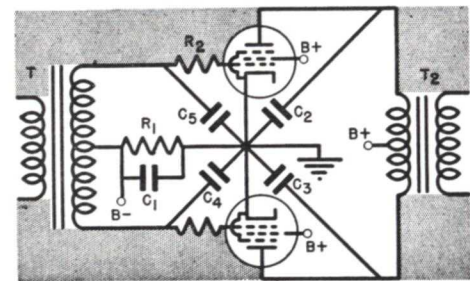

FIG. 24. Here are pictured the cures for parasitic oscillation in an output stage.
for parasitics is to insert suppressor resistors right at the grid terminals of each tube, as shown in Fig. 24. Resistors  $R_2$  and  $R_3$  should be between 100 and 1000 ohms. Use the smallest size which will eliminate oscillation.
bypass paths from the plates run through condensers  $C_2$  and  $C_3$  to  $B+$ , from  $B+$  to  $B-$  by way of the output filter condenser, and then to the cathode through condenser  $C_1$ . Bringing  $C_2$  and  $C_3$  directly to the cathode, as shown in Fig. 24, eliminates a great deal of this path, and so makes parasitic oscillations less likely. If  $C_2$  and  $C_3$  are used in this manner, they must have voltage ratings of 600 volts or higher.
► As an additional measure, grid condensers of about .0005 mfd. each can be installed to change the grid resonant frequency, as shown by  $C_4$  and  $C_5$  in Fig. 24. (Sometimes they are installed by the manufacturer.) If used,  $C_4$  and  $C_5$  should return to the same cathode point as  $C_2$  and  $C_3$ . ► Remember that an electrolytic condenser makes a very poor r.f. bypass condenser because its inductance